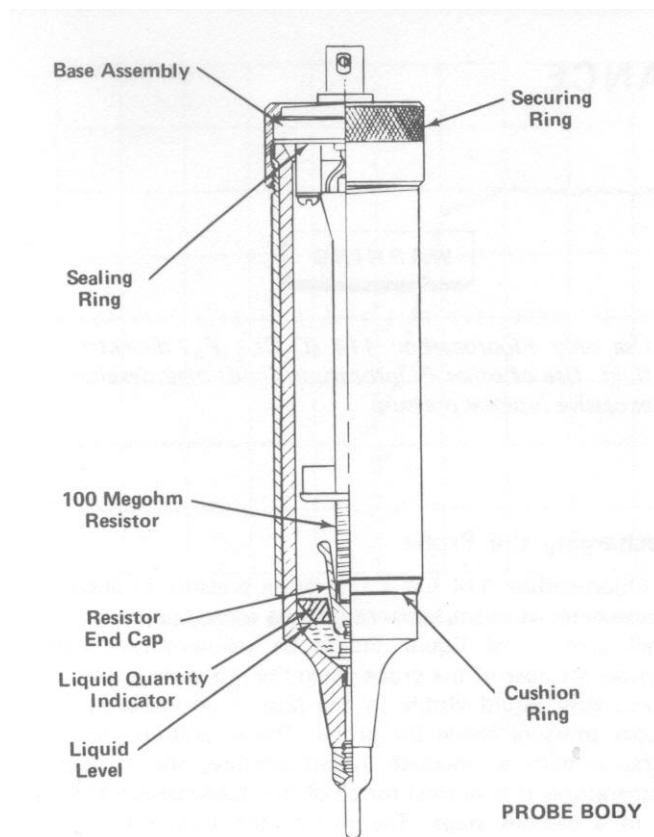

Figure 1. Probe body assembly.
1. Disassemble the probe body and inspect the components for evidence of damage. A cutaway drawing is shown in Figure 1. In particular, inspect and measure R100, the 100-M Ω high-voltage resistor. Replace any defective components.